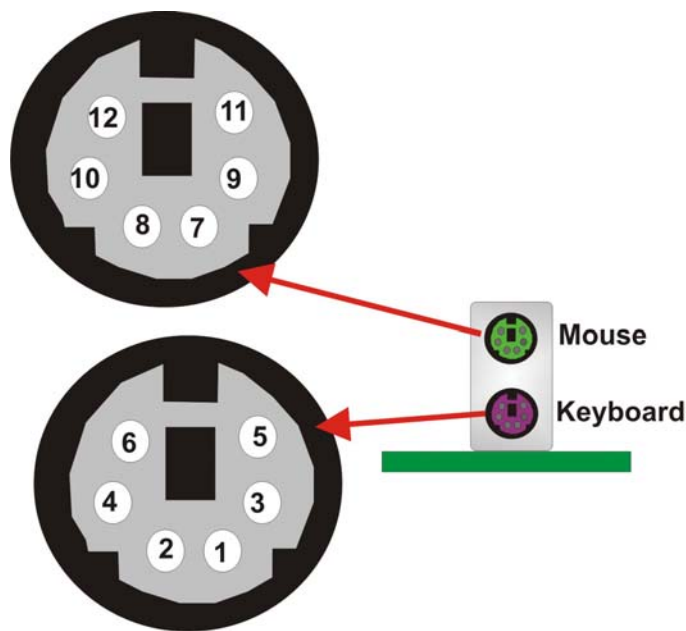

Figure 3-19: Keyboard/Mouse Connector Pinouts
- CN Pinouts: See **Figure 3-19** and **Table 3-20**